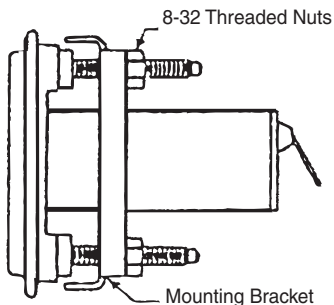

Figure 1
2. Insert Gauge into mounting hole. Fit bracket over mounting studs on back of gauge (See Figure 1).
3. Install a nut and washer into mounting studs as shown in Figure 1.